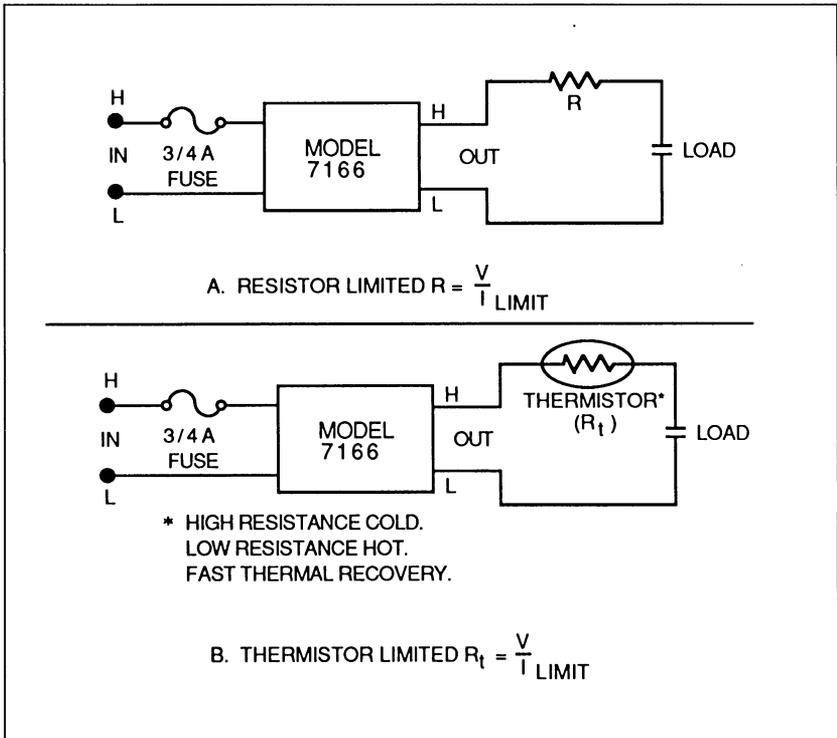

Figure 2-8. Limiting Capacitive Reaction Current
B. Capacitive Loads—The initial surge current from a capacitive reactive load must be limited. Figure 2-8 shows circuits that can be used to limit current surges. Use a 0.75A fuse for hot switching (contacts make or break current) and a 2A fuse for cold switching (contacts do not make or break current). Also consider the load when determining the current surge limit.